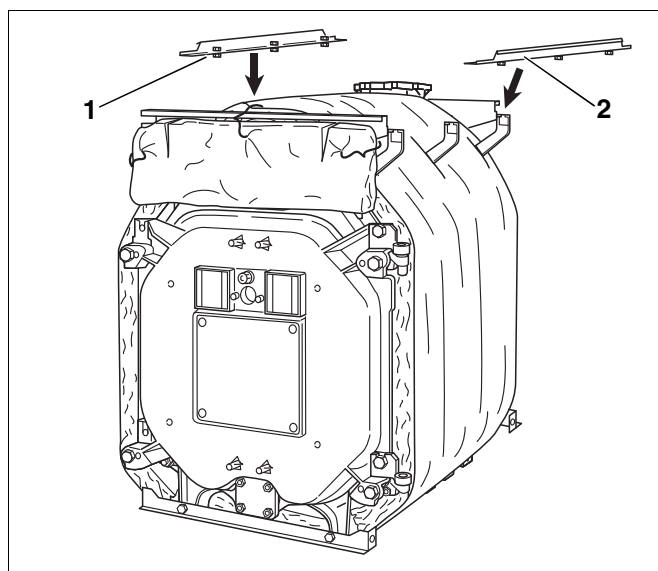

Fig. 45 Installing the longitudinal rails
- Push longitudinal rails (Fig. 45, [1] and [2]) with prefitted screws into the recesses in the brackets, as previously described, and screw together.